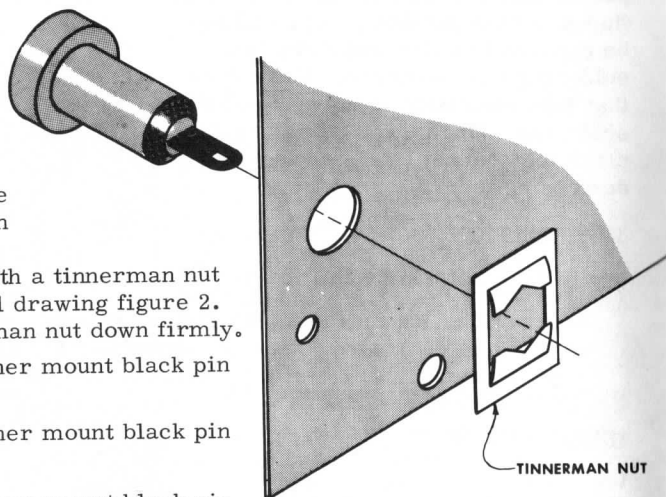
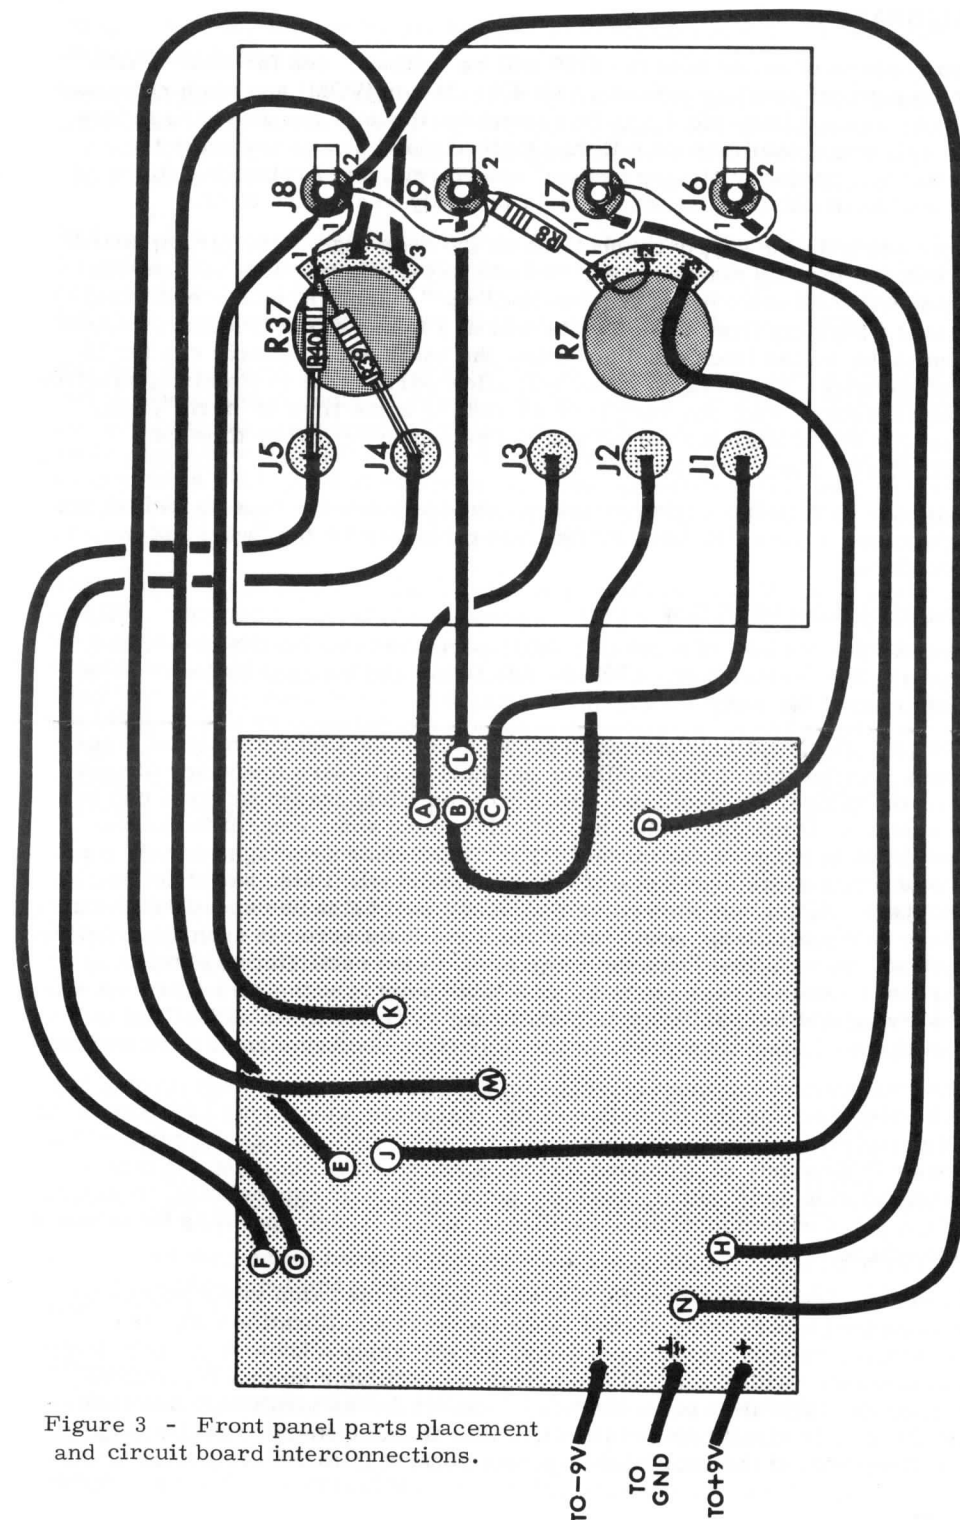

Figure 2
Figure 3 - Front panel parts placement and circuit board interconnections.
- () Place a black pin jack J1 in the hole provided as shown in figure 3 and fasten in place with a tinnerman nut as shown in detail drawing figure 2. Press the tinnerman nut down firmly.
- () Mount the open circuit phone jack J6 on the front panel in the position shown in figure 3. Orient the jack as shown and fasten in place with the nut provided.
- () Mount the 100K ohm potentiometer R7 in the location shown in figure 3. Use two 3/8 inch nuts provided, one behind the front panel as a spacer, and the second on the front side of the panel to secure the potentiometer. Adjust the rear nut so that none of the threaded shaft of the control is exposed when the front nut is tightened down. This will allow the control knob which will be mounted in a later step to seat as closely as possible to the front panel. Orient as illustrated in figure 3.